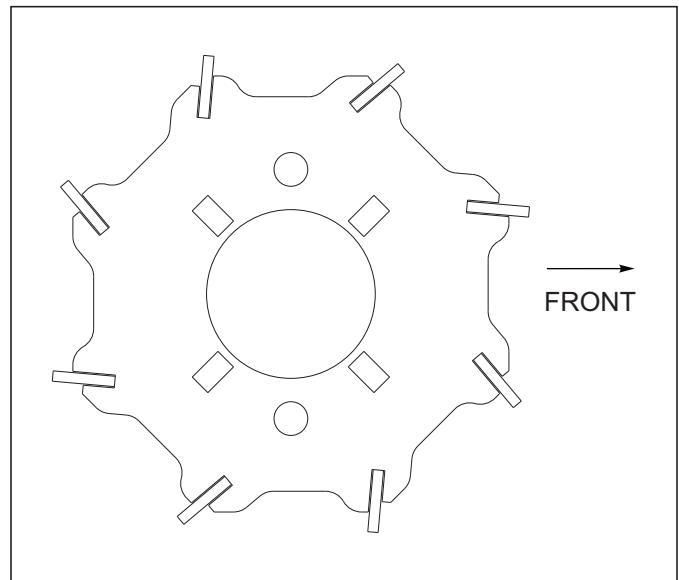

Figure 4-15: Flat Reel
5. The 12" diameter reel consists of nine 3/4" diameter round bars with a chevron shape for smoother rotation. The reels have no inner shaft to reduce plugging in wetter conditions. The reels operate independently of the 3 row spike with two spring loaded arms per reel to maintain consistent down pressure. A 12" diameter spiral wound reel with 1/4 s 1-1/2 angled blades is also available. The blades on flat bar reels are angled for more aggressive action. Install the reels as shown (**See Figure 4-15**).